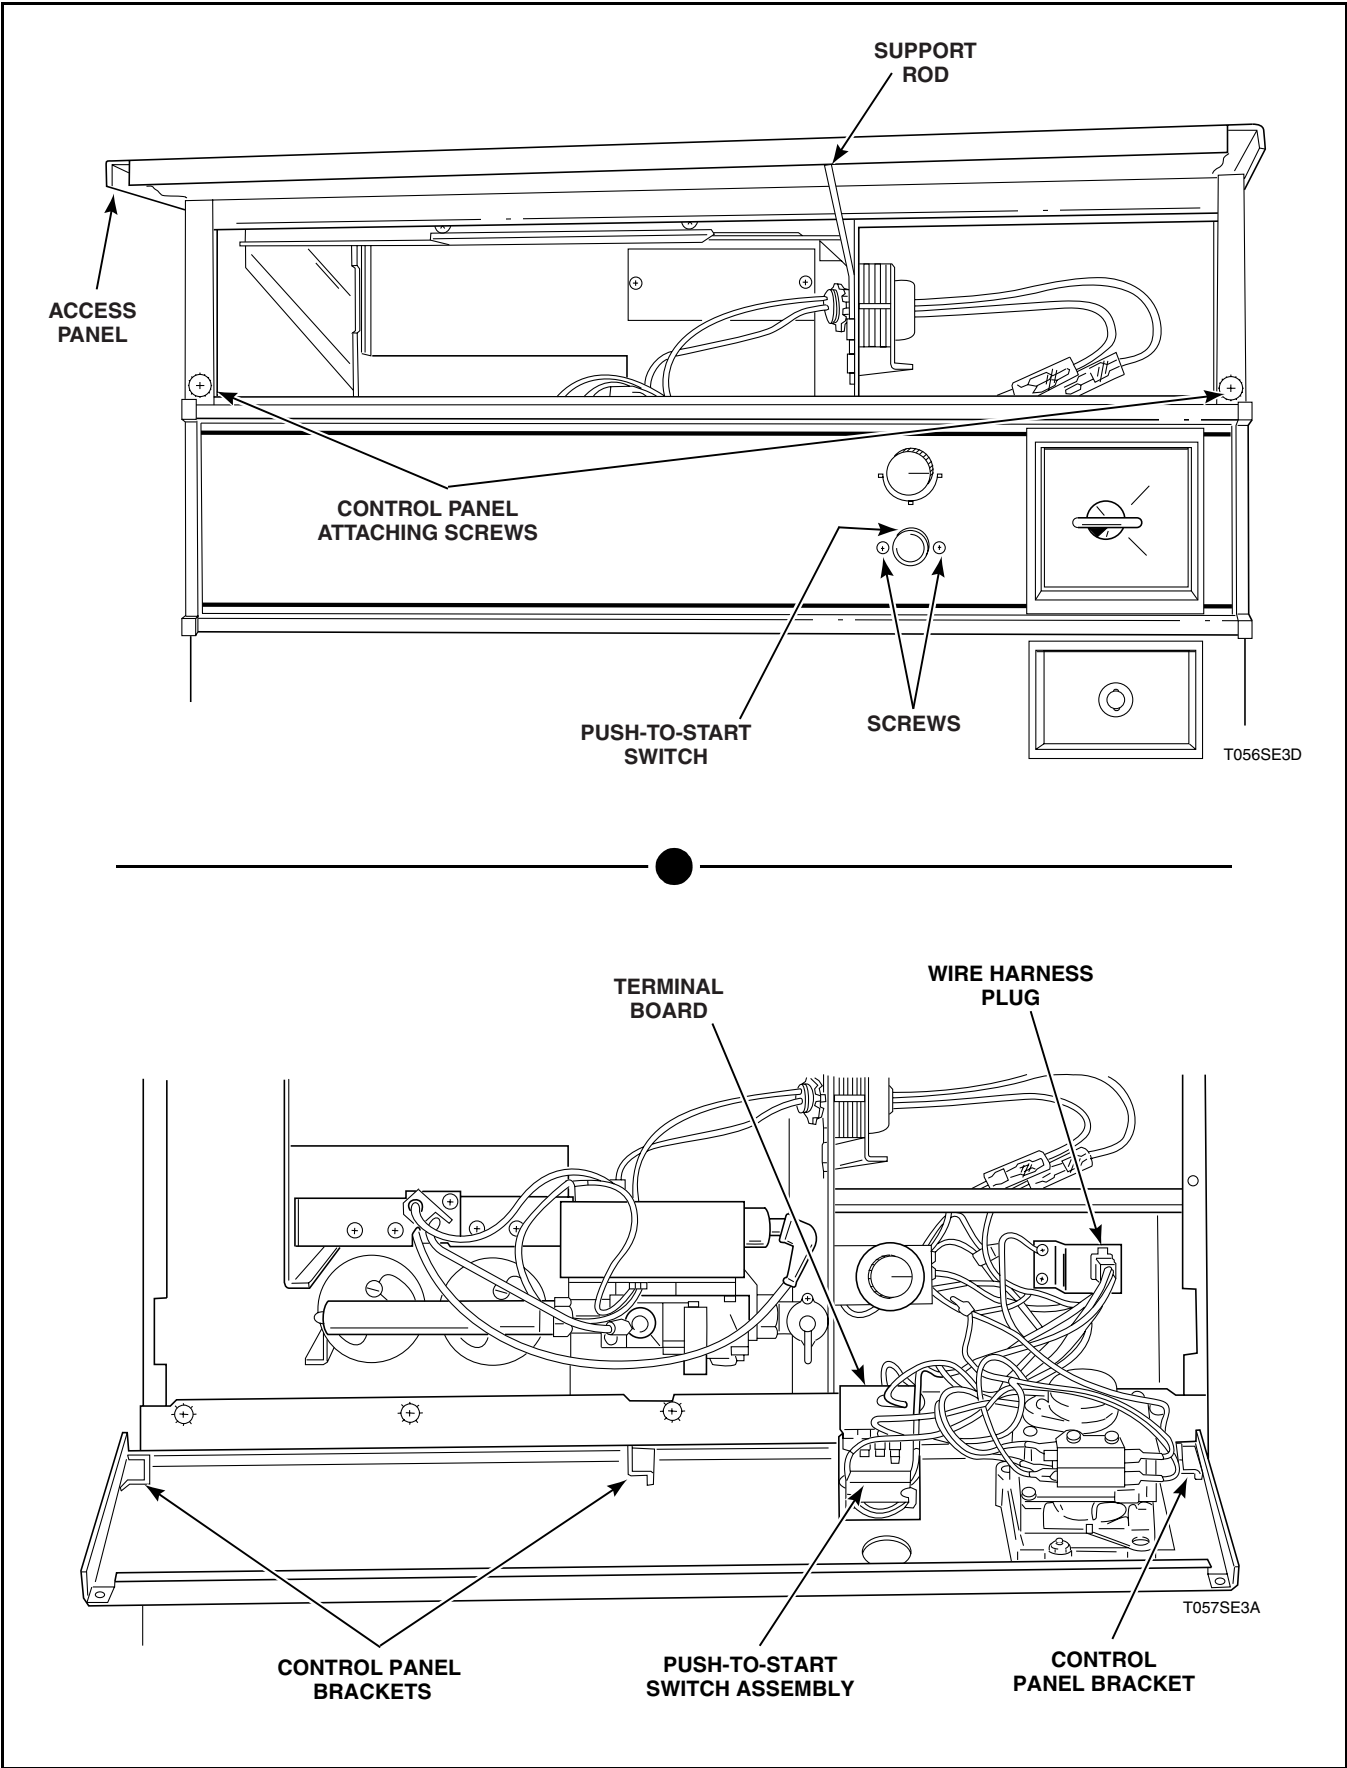

Figure 1
Refer to *Figure 1*.
- (1) Remove two screws holding control panel to cabinet.
- (2) Lift control panel off top edge of front panel and pull panel forward just far enough to disconnect wire harness at the plug.
- b. Remove two screws holding switch, and mounting bracket (if applicable), to control panel. Refer to *Figure 1*.